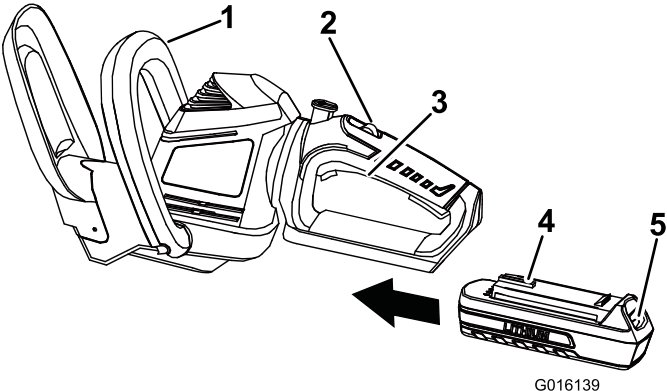

Figure 2
- Align the tongue of the battery pack with the cavity in the handle housing (Figure 2).
- Grasp the trigger handle (Figure 2).
- Place one hand on the trigger handle. Place the other hand on the auxiliary handle (Figure 2).
- Slide the lock switch backwards, towards you, then squeeze the trigger switch to turn on the hedge trimmer (Figure 2). The trimmer will stay on as long as the trigger switch is squeezed. Lock-off switch may be released once hedge trimmer is running (Figure 2).
- Release the trigger switch (Figure 2).